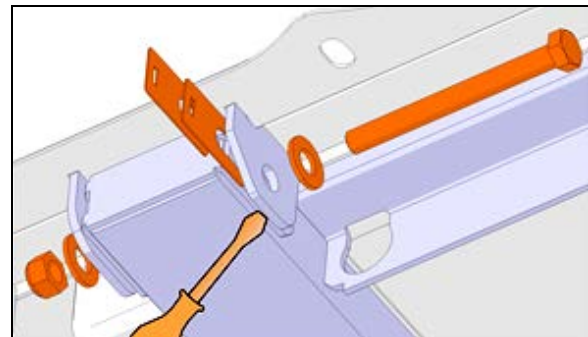

FIGURE 26: SHIM INSTALLATION, TRANSVERSE SCREW. ARRANGEMENT MAY VARY
7. Shim arrangement may vary and may be stacked on both sides (Figure 26).